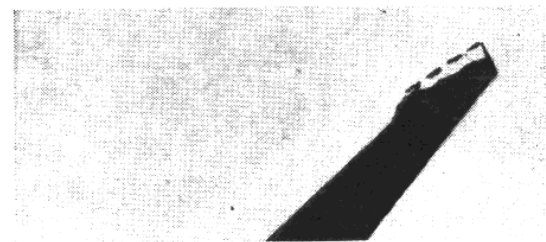
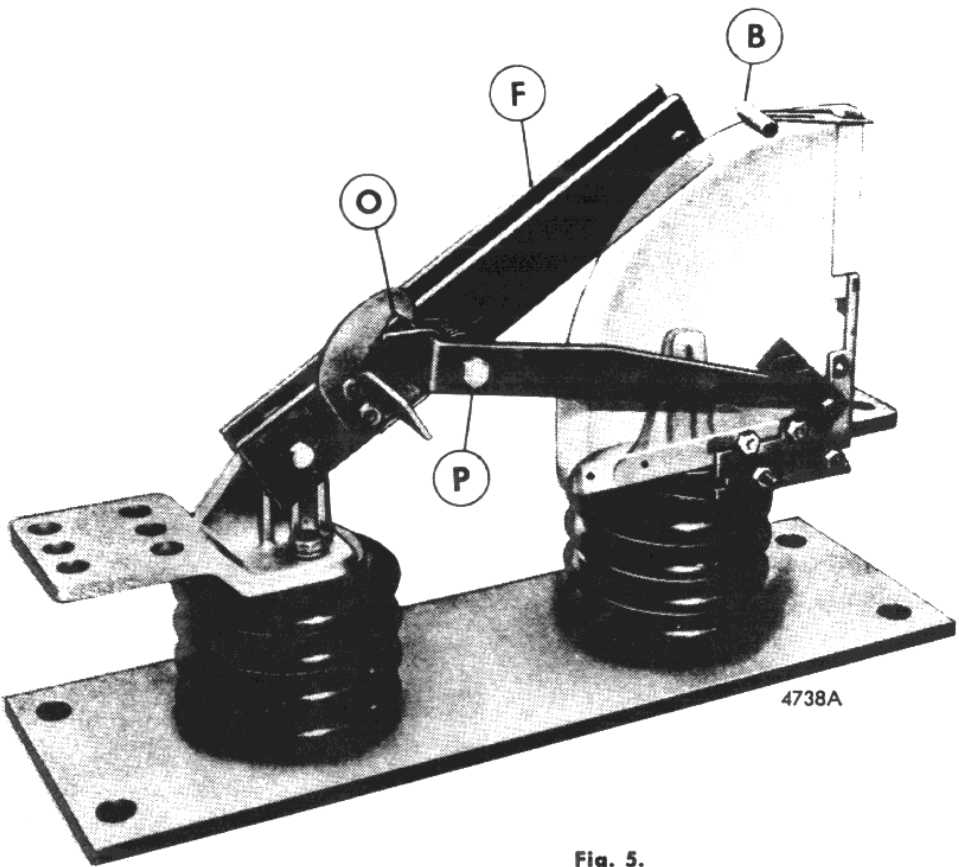
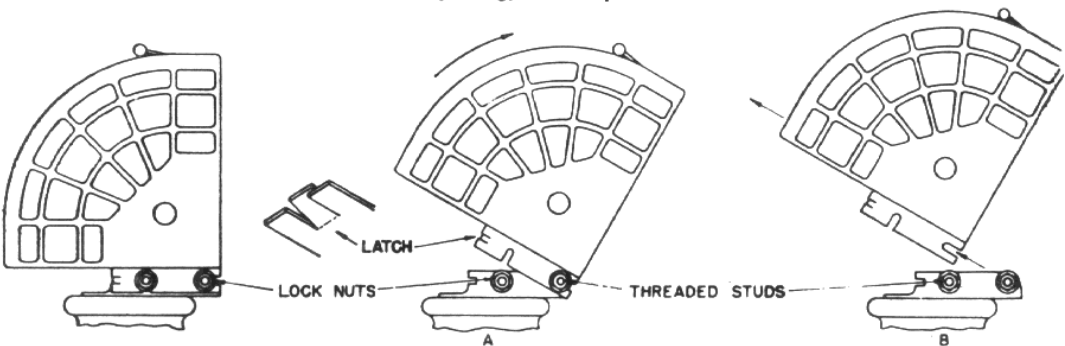
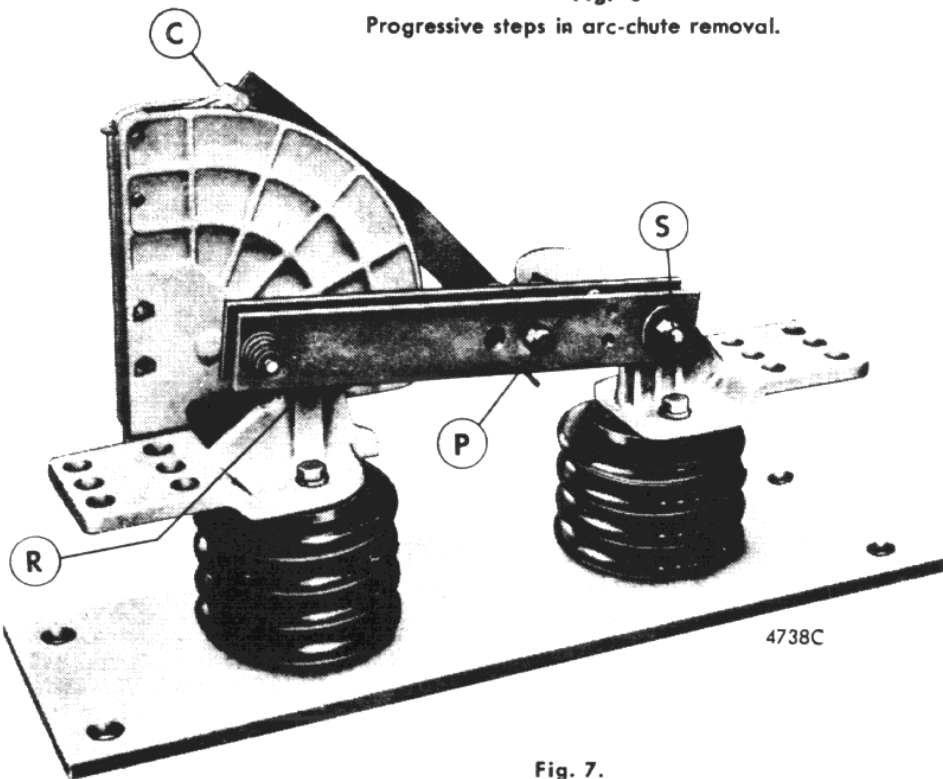

Fig. 4. End of auxiliary quick-break blade showing erosion at arcing tip.
Fig. 5.
Fig. 6
Fig. 7.
If the moving arcing electrode (on the tip of the auxiliary, quick-break blade) shows bad erosion, Fig. 4 (approximately one-third burned away), the arc chute and quick-break blade should be replaced. To replace arc chute, loosen locknuts holding arc chute to support, (Fig. 6), pull arc chute away from switch base, rotating toward hinge, and remove. Discard and replace with new unit. To replace quick-break blade, remove bolt P (Fig. 5) and lift off used blade.
Operate switch to check on opening. Quick-break blade should not release until its hinge end contacts latch hook O (Fig. 5). On closing, quick-break blade should not leave flipper C (Fig. 7) until jaw and blade have made contact R.
Should it ever be necessary to adjust the hinge contact pressure—(1) Loosen pressure adjusting nut S (Fig. 7) until there is negligible contact pressure (no clearance), (2) Tighten nut one-half turn. Hinge friction should be sufficient to hold a 4.8-kv blade (9-inch insulator centers) in any position and to just allow a 13.8-kv blade (12-inch insulator centers) to fall. No adjustment is required on jaw contact.